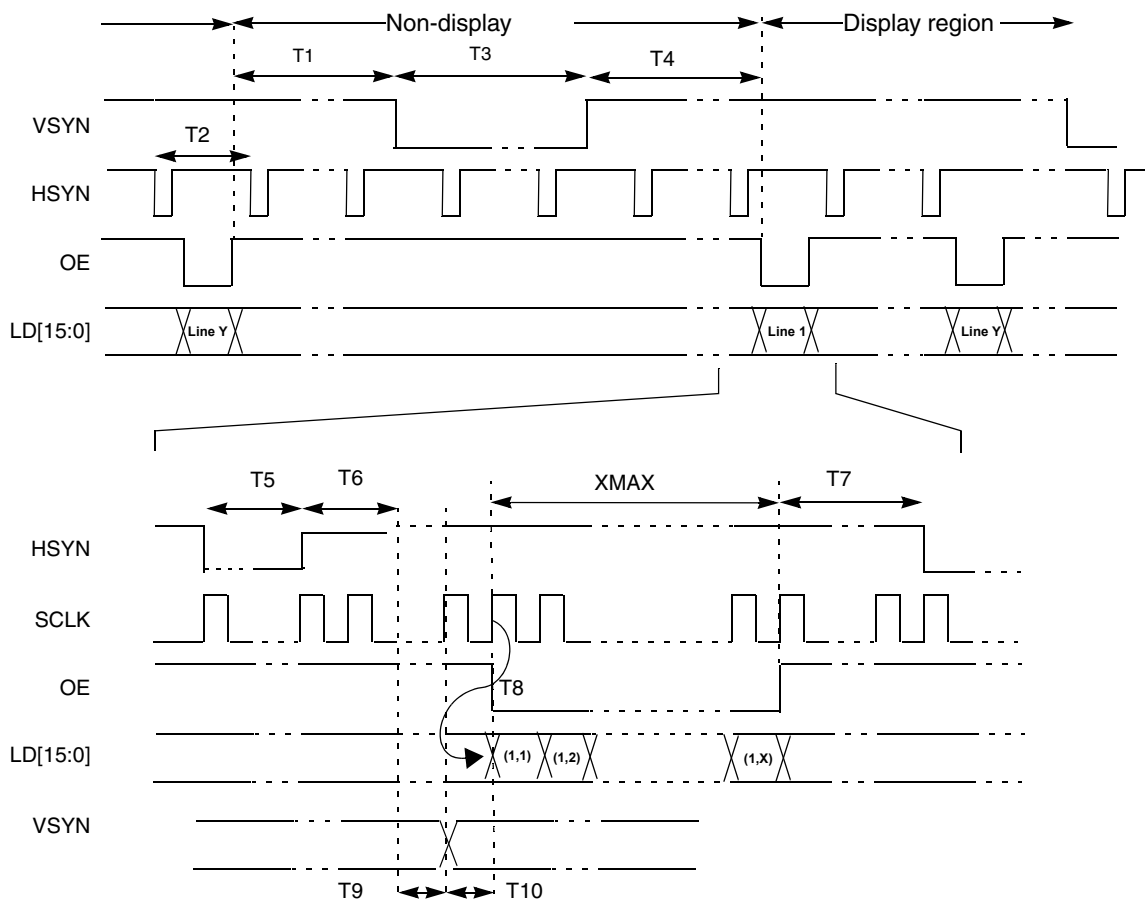

Figure 46. 4/8/16 Bit/Pixel TFT Color Mode Panel Timing
- VSYN, HSYN and OE can be programmed as active high or active low. In Figure 46, all 3 signals are active low.
- SCLK can be programmed to be deactivated during the VSYN pulse or the OE deasserted period. In Figure 46, SCLK is always active.